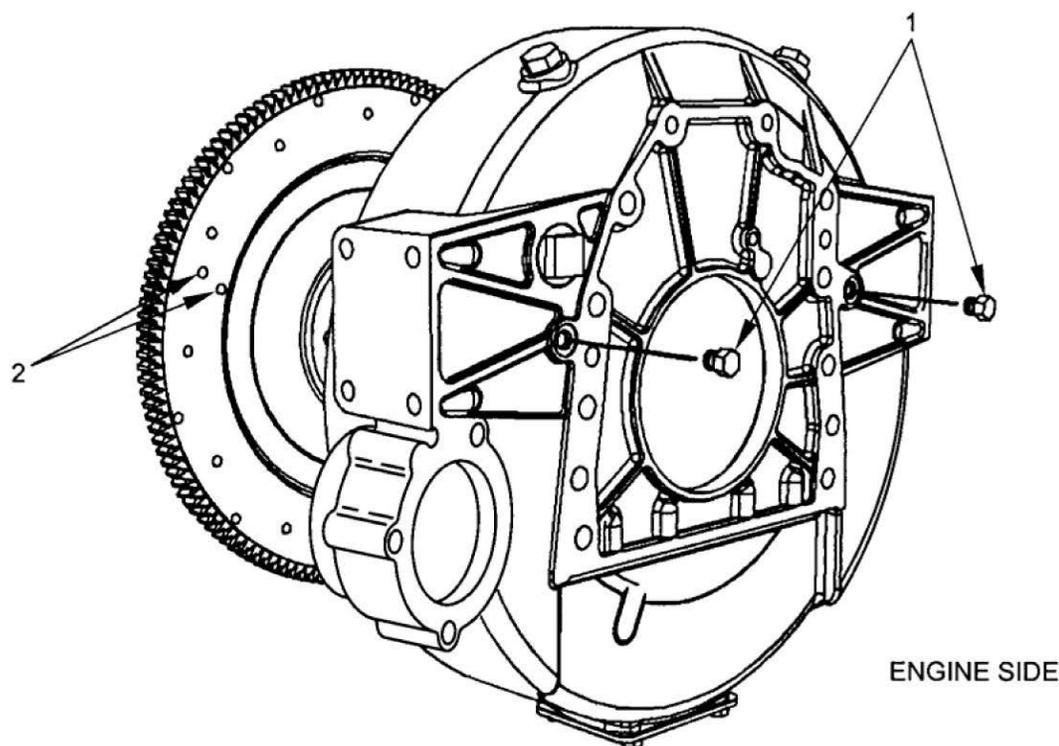

Figure 10. Timing Calibration Plugs.
- STEP 2. Remove timing calibration plug from either side of the flywheel housing. Refer to Figure 10. The starter side of the engine is the easiest to access.
- STEP 3. Use a flashlight to examine the flywheel through the timing calibration port where the timing calibration plug was removed. Ensure that the timing pin hole that is machined into the flywheel is not aligned with the timing calibration port (hole). Refer to Figure 10. If necessary, rotate the crankshaft in order to cause the misalignment of the holes.